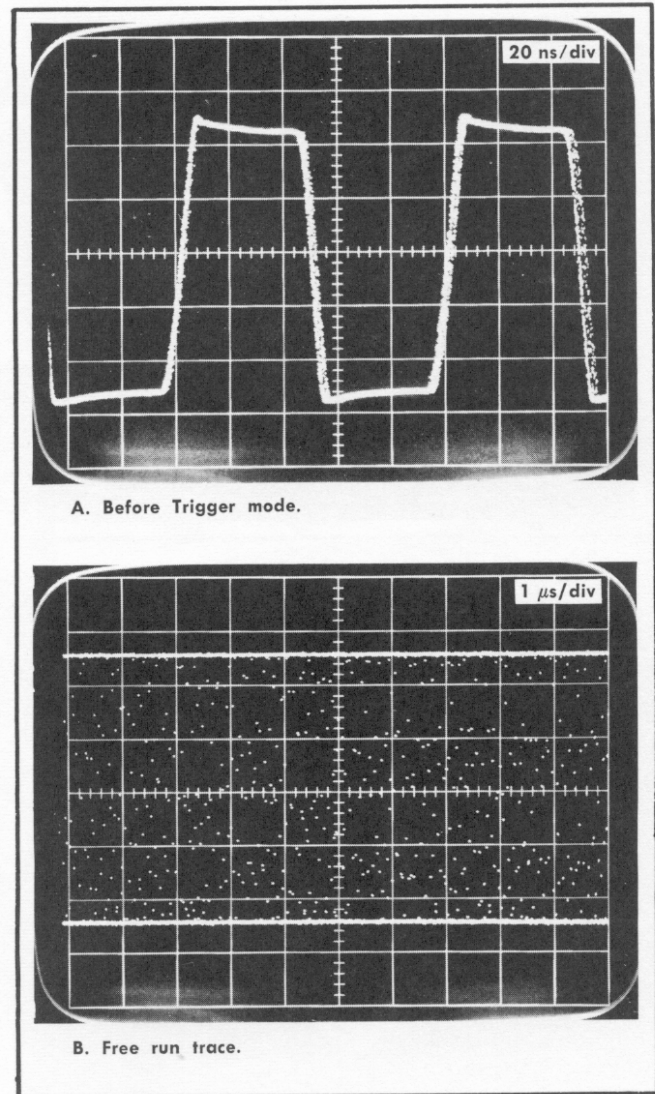

Fig. 5-6. Dot Transient Response check.
of the square wave can show two traces, but the dot response overshoot or undershoot must not be greater than 5%, or 0.25 major division on the graticule (see Fig. 5-6).
b. Adjust Gain control R49 for unity loop gain as shown in Fig. 5-6.